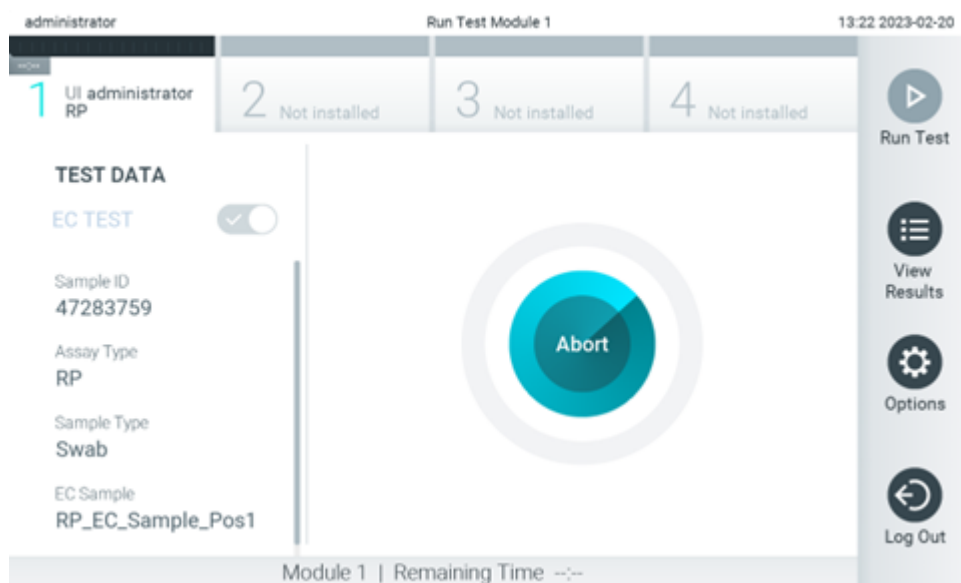

Figure 98. Test execution and remaining run time display.
10. Upon detecting the QIAstat-Dx assay cartridge, the QIAstat-Dx Analyzer 2.0 will automatically close the lid of the cartridge entrance port and start the test run. No further action from the operator is required. While the test is running, the remaining run time is displayed on the touchscreen (Figure 98).